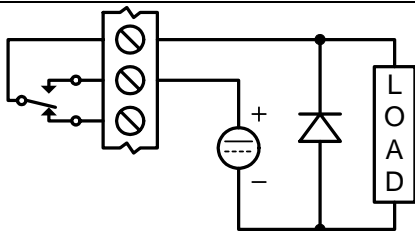

Figure 7. Low Voltage DC Loads Protection
4. For low voltage DC loads, place a diode across the load with a reverse breakdown voltage two to three times the circuit voltage and a forward current at least as large as the load current. Shown in Figure 7